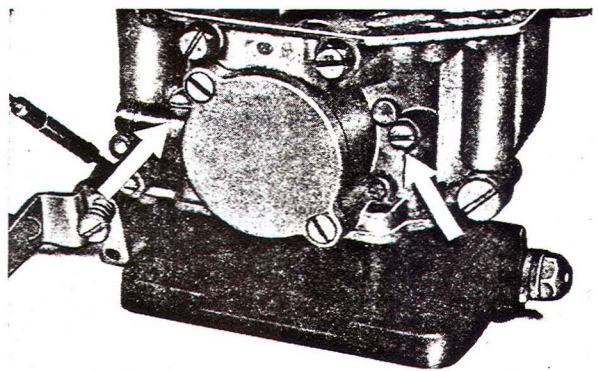

Fig. 17
4. Install venturi. Be sure that the restriction (rated diameter of venturi) faces upwards, i. e. that designations can be read from above. Do not overtighten clamping screw (fig. 17) (hold venturi).